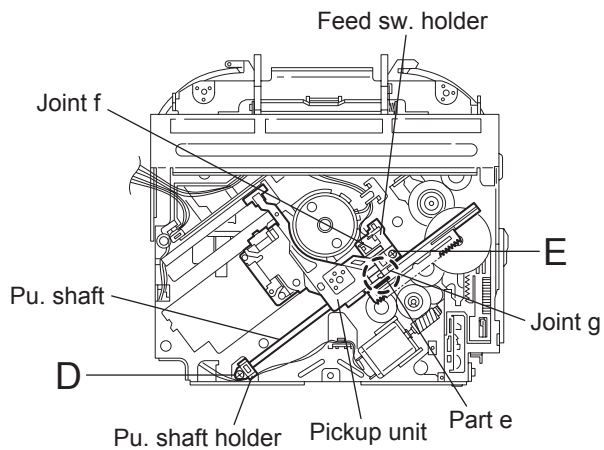

Fig. 14
3.2.7 Removing the pickup unit (See Figs.14 to 18)
3.2.8 Reattaching the pickup unit (See Figs.14 to 17)